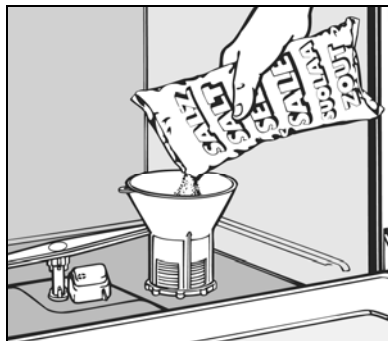

Figure 3-3: Filling the Salt Container
3. Place a funnel over the salt container. Carefully fill with salt. See Figure 3-3. The salt container holds approximately 4.5 pounds (2 kilograms) of salt.